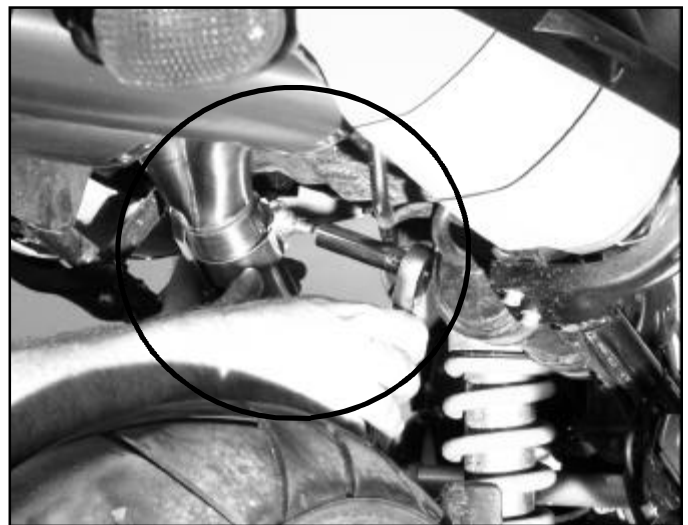

Figure 13
16. Rotate the clamp on the muffler inlet pipe so the tightening screw is away from the tire and firmly tighten the screw (socket, 12mm and wrench). Figure 13.